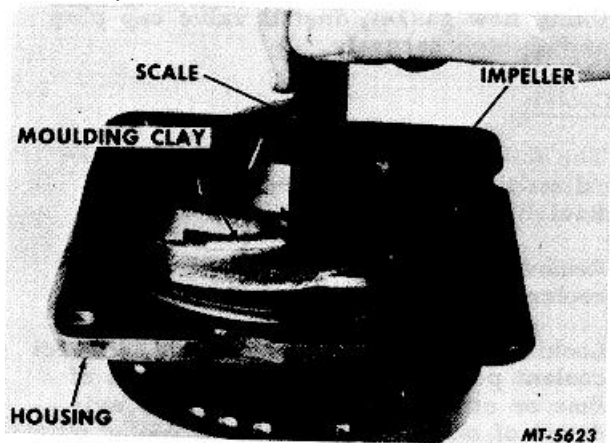

Fig. 149 Measuring Thickness of Moulding Clay to Determine Impeller Clearance
3. Remove pump assembly and check thickness of moulding clay (Fig. 149). If clearance exceeds specifications. the water pump must be replaced.